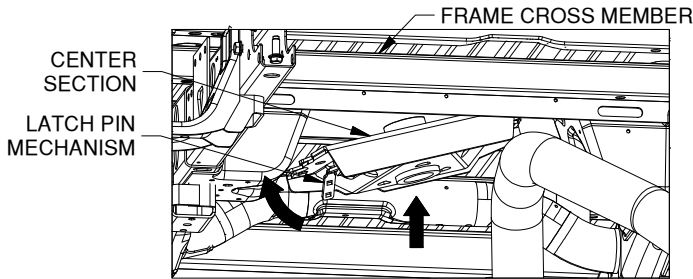

Figure B5: Looking from rear towards cab.
- 3. Install the center section.** With the latch pin mechanism on the driver side, raise the center section into place as shown, see Figure B5. In order to clear structures under the truck bed, the center will have to be lifted into place on an angle over the exhaust, then positioned directly under the frame cross member so that the raised portion of the center can be pushed straight up through the hole in the frame cross member, and through the hole in the plastic spacer block. Having assistance in the bed to guide the top of the center section is recommended. Line the 6 holes in the center section up with the frame holes and the holes in the threaded blocks. Thread a 5/8 flange head bolt into each hole. Next, run the bolts in until they are about 1/16" from being tight.